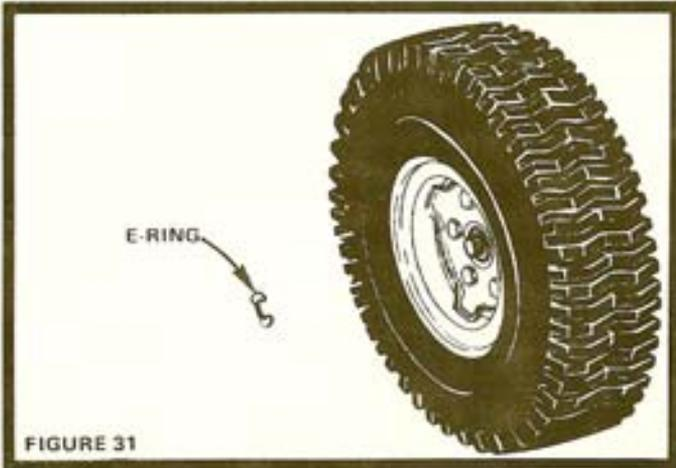

FIGURE 31
- e. Removing rear wheel for tire repair (Fig. 31):